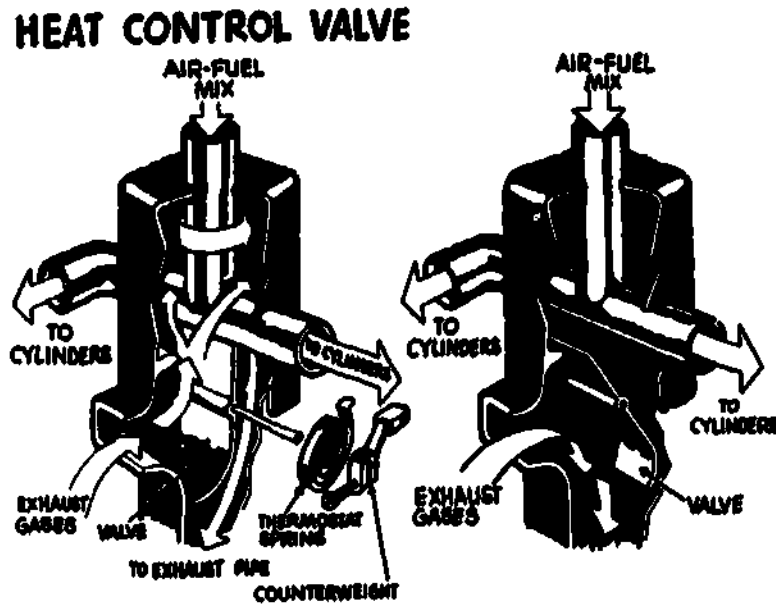

Fig 5-6. Heat control valve.
a. Heat control valve (fig 5-6). To control the flow of gases through the intake manifold hot spot, a valve is placed in the opening between the two manifolds. Notice that the valve can be moved to either open or close the opening to the intake manifold. The heat control valve may be operated automatically or manually.